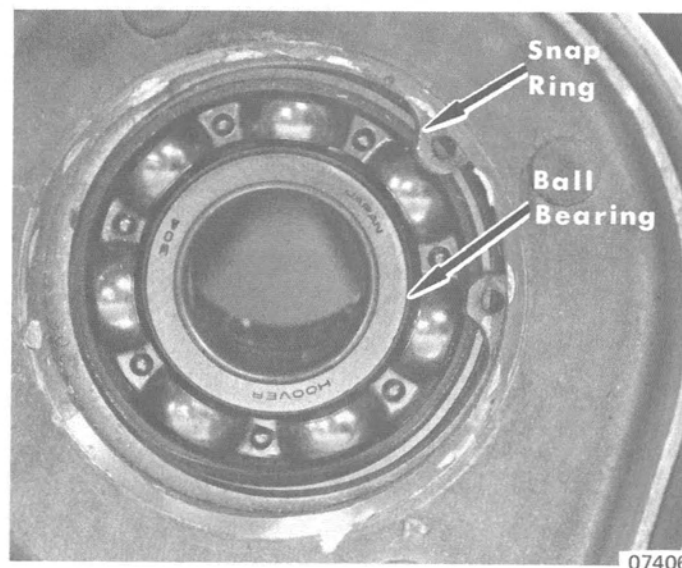

Figure 2. Jackshaft Ball Bearing
8. Remove snap ring. (Figure 2)